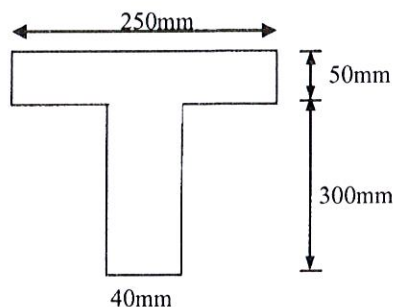

Figure 9
b) A T-section beam as shown in Figure 9 is subjected to a shear force of 250kN. Calculate the maximum shear stress at the junction of the web and the flange. Sketch the shear stress distribution diagram for the section.